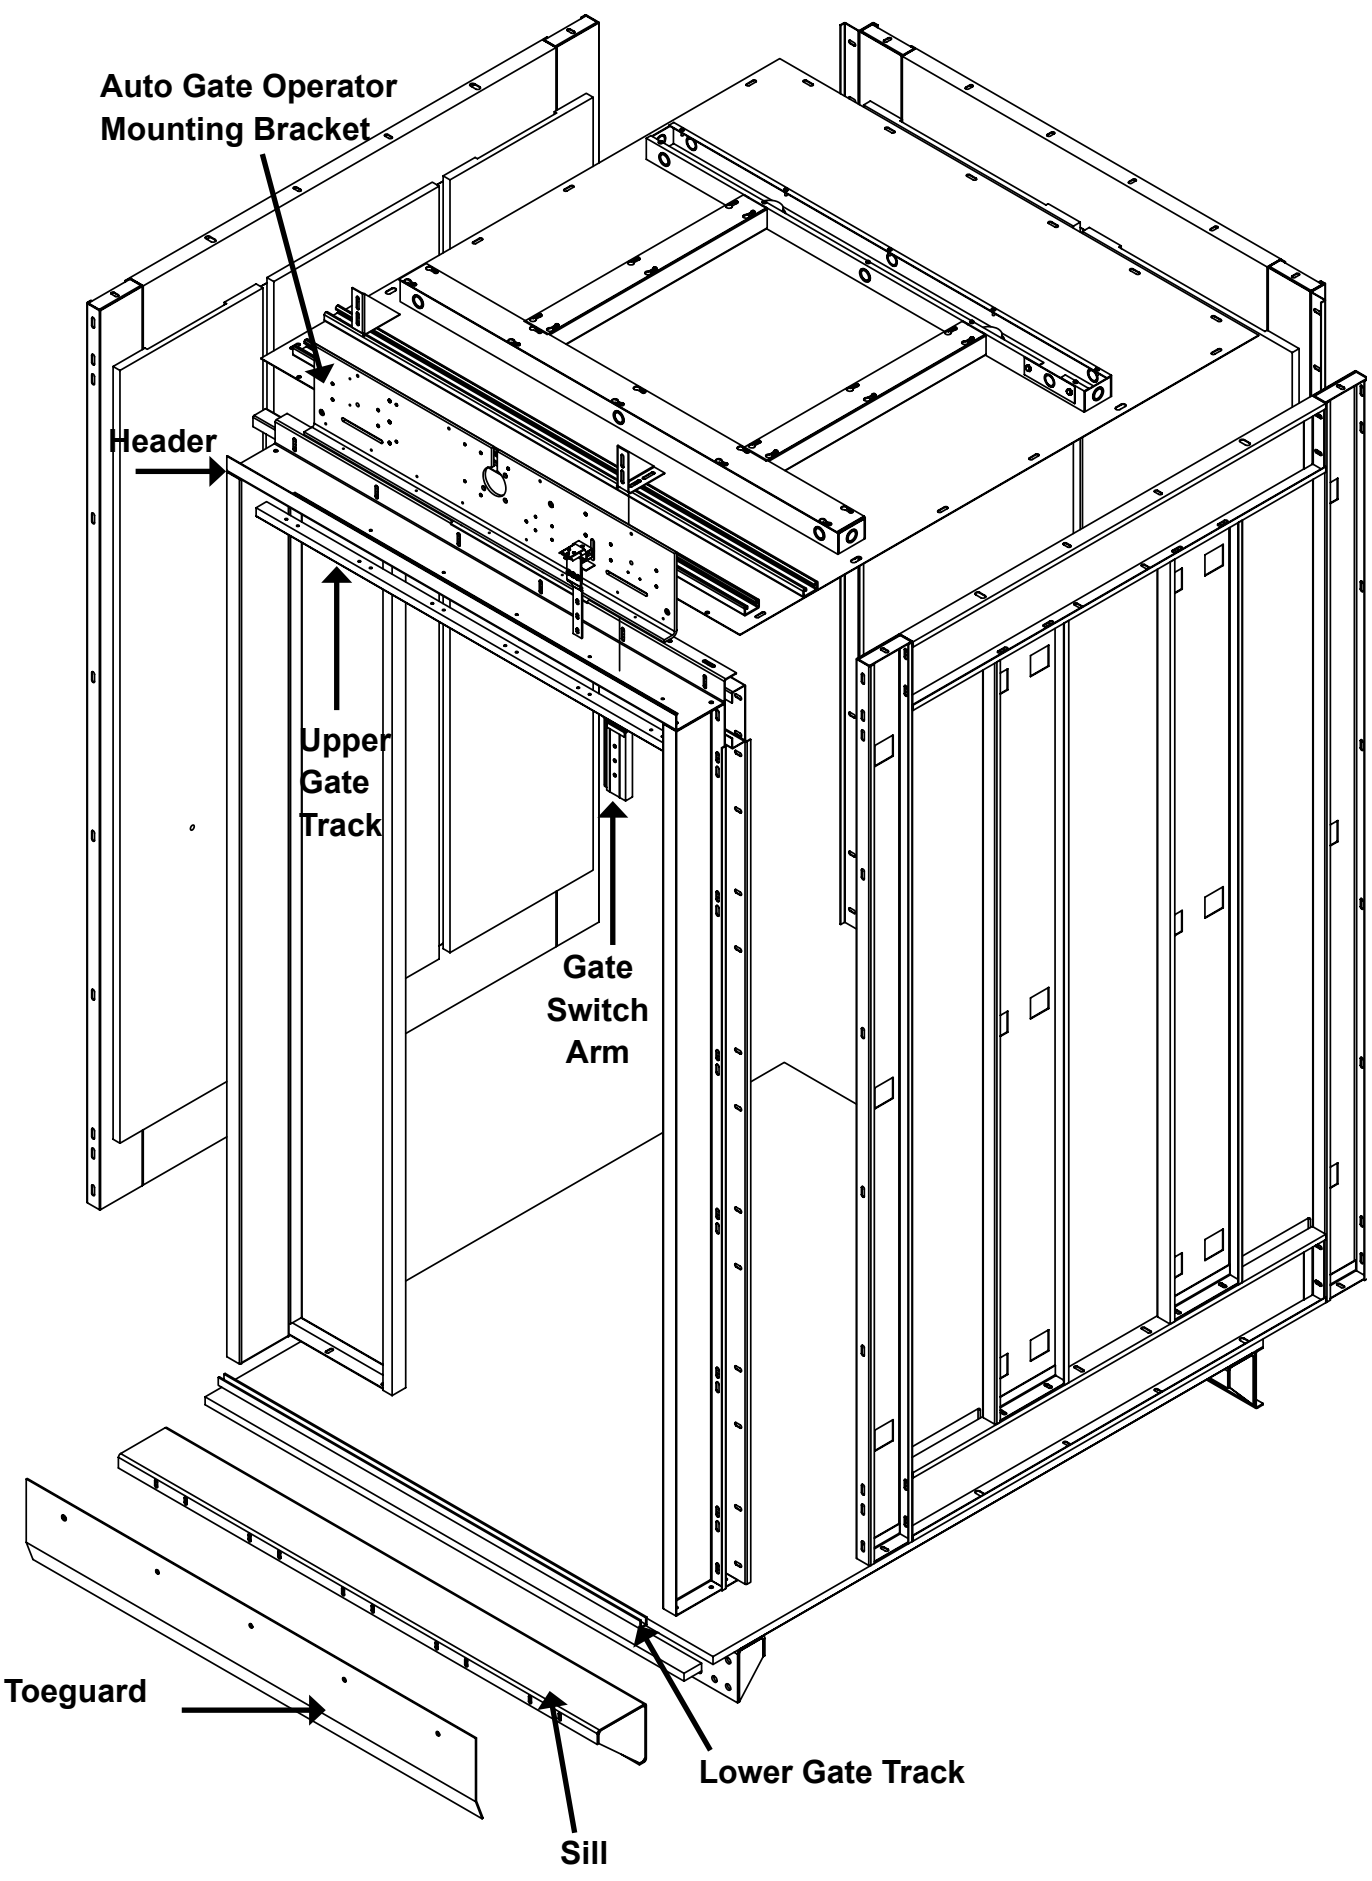

Figure 82 Car Entrance w/Auto Gate
- 1) Remove the lower gate track from the platform (Figure 82).